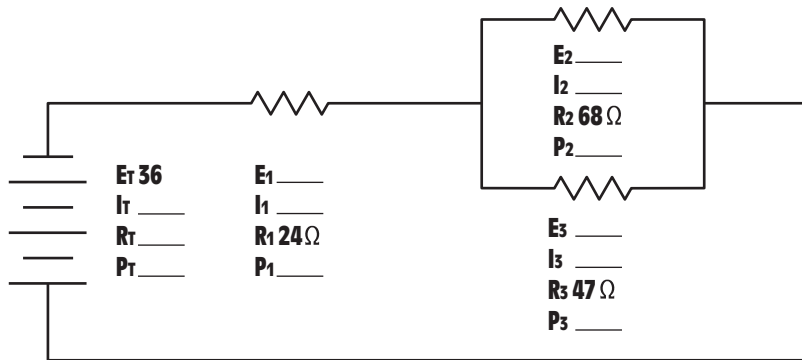

Figure 7-25 Practice Problem 5.
5. Find all the missing values in the circuit shown in *Figure 7-25*.